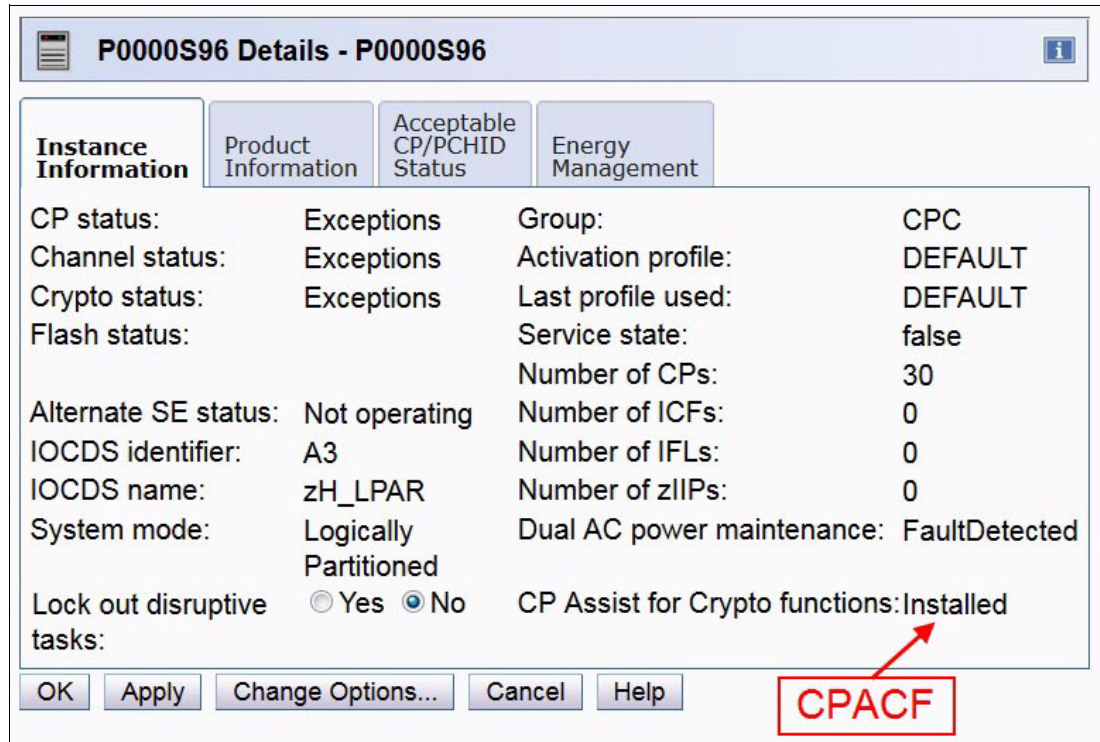

Figure 10-1 System details: CPACF installed
1. Open the System details menu of the CPC at the SE workplace. The system details window opens (Figure 10-1 on page 547).